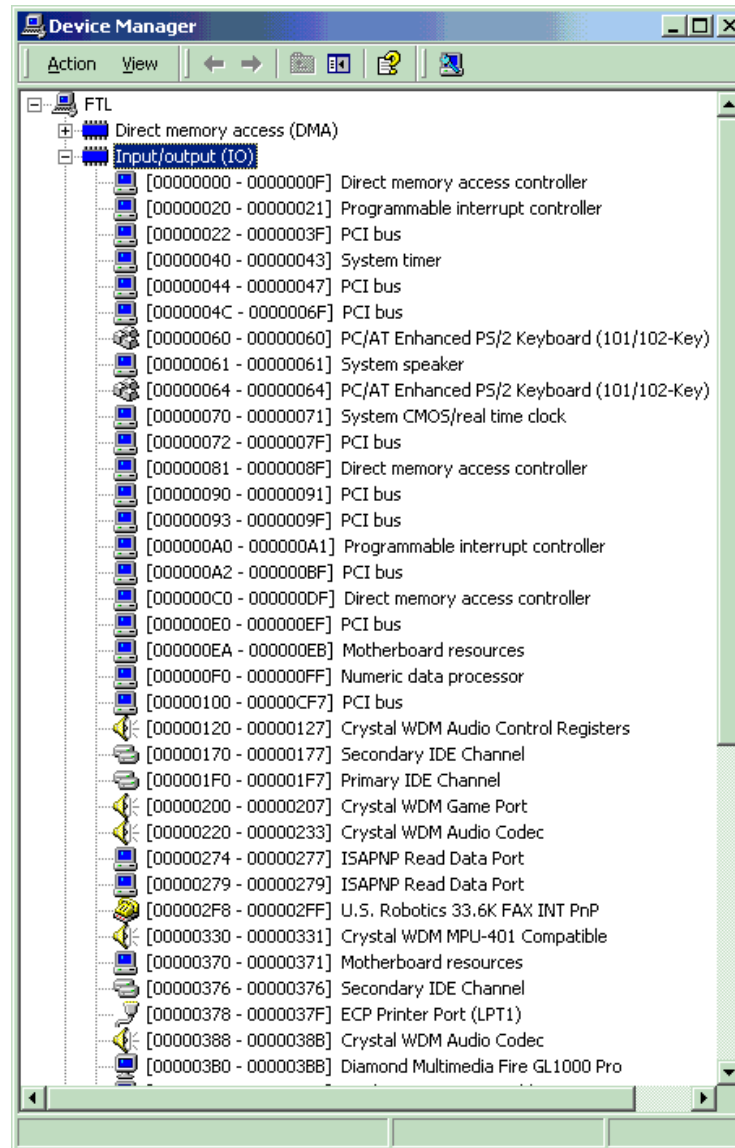

Figure 78. Device Manager Window Displaying the System Resources
3. In the Device Manager window, select the **View** menu. Then click **Resources by Type**. A window appears that shows system resources (Figure 78).